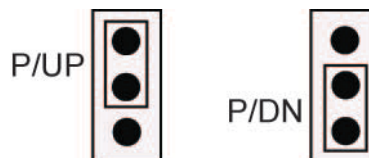

Figure 10. Pull-up/down jumper configuration
5. Set each jumper for pull-up or pull-down, as shown in Figure 10. Use the jumper labeled **DIO A** to configure Port A, and **DIO B** to configure Port B.